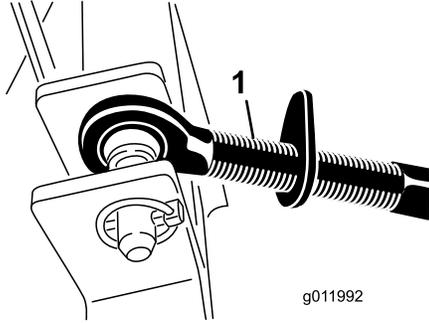

Figure 4
1. Connect the upper link to the holes in the blower bracket and secure it with a clevis pin and lynch pin (Figure 4).